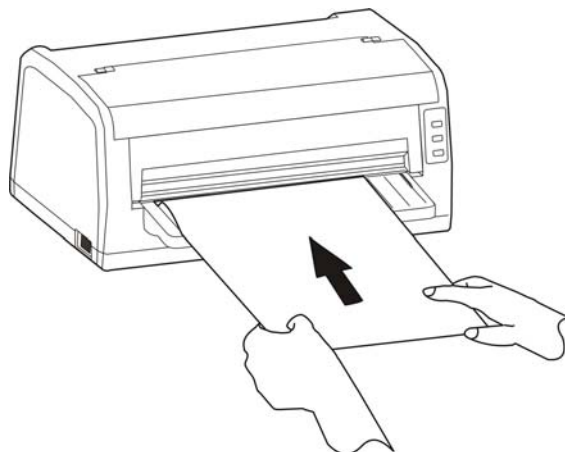

Figure 3-5 Loading cut sheet
5. Insert the paper as shown in Figure 3-5, the paper is fed into the printer automatically.